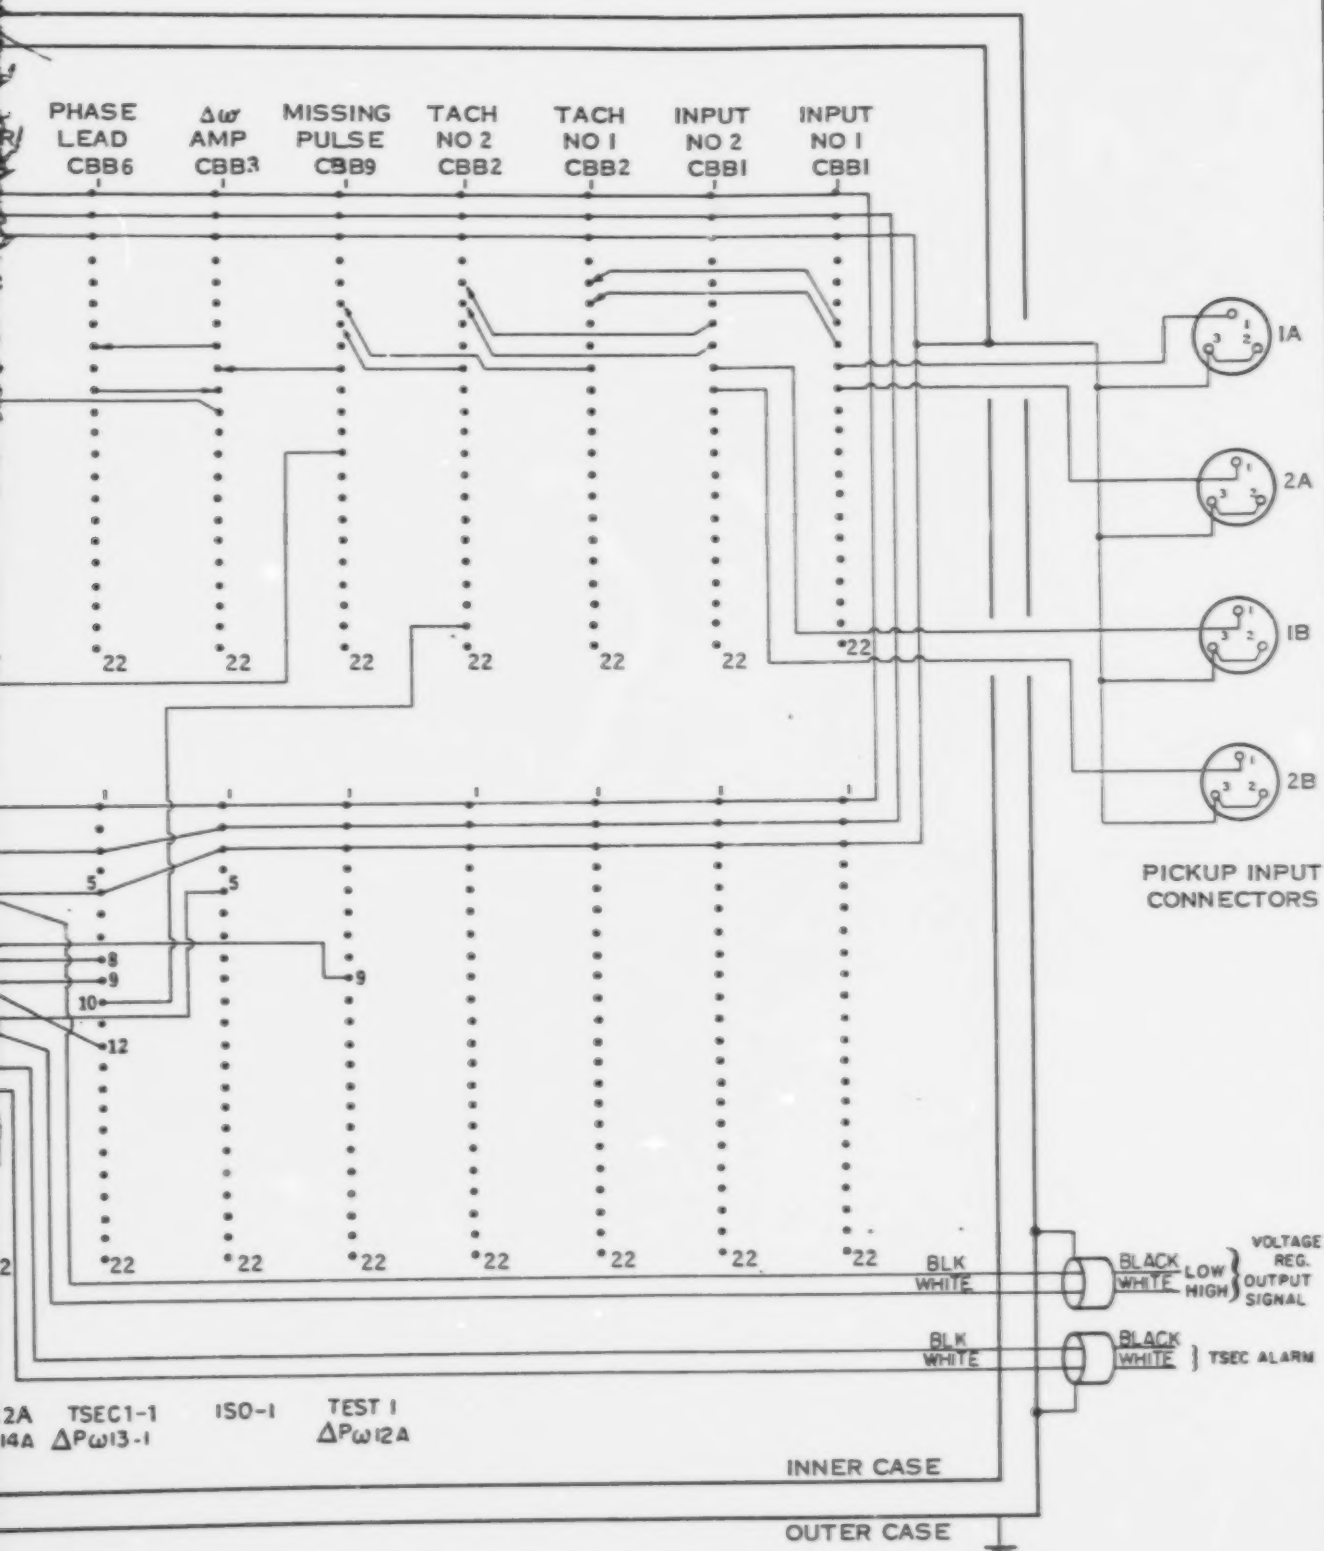

FIGURE 4-18
2. Check that all wiring conforms to Figure 4-18 and the station drawings listed in Section 5.10.